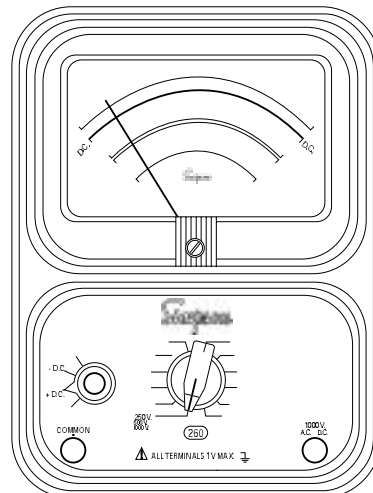

Figure 4-3. Jacks and Switch Positions for Measuring DC Voltages, 0-500V Range
- Set the function switch at +DC (Figure 4-3).